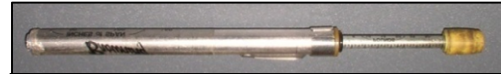

Figure 7.6
Force Gauge (Figure 7.6)
6. Use a force gauge (Figure 7.6) to measure the tension of the belt. Measure at the edge of the turntable top.